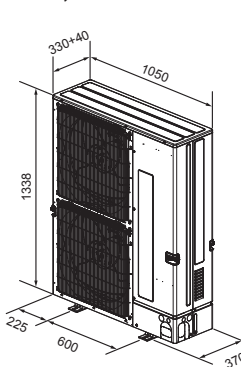

Fig. 2-2
■ Outline dimensions (Outdoor unit) (Fig. 2-2)
(1) Windy location installation